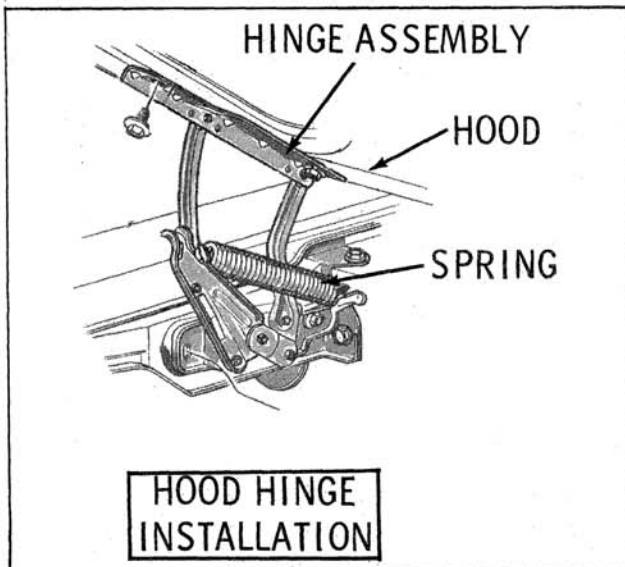

Fig. 15-9 Hood Hinge Attachment
1. Raise hood and loosen hinge bracket to cowl bolts and the hinge bracket to fender bolt on each side of car. (Fig. 15-9) For fore or aft adjustment, loosen hood hinge to hood bolts.
4. Remove hinge to hood bolts on each side of hood. (Fig. 15-9)